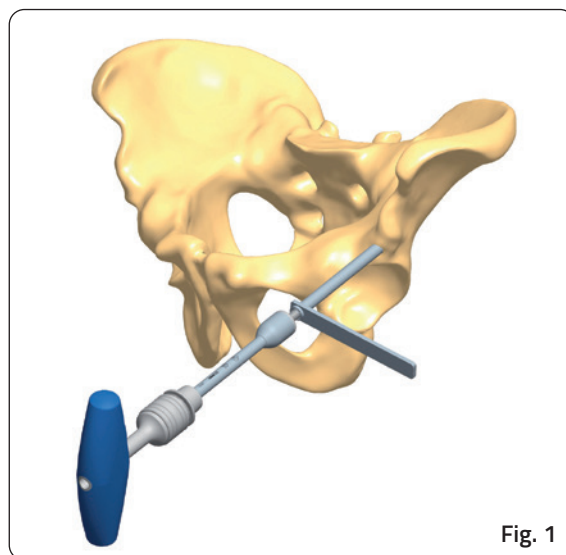

Fig. 1
1. Commence with the uninjured side. Make an incision just caudal to the anterior superior iliac spine to course over the anterior inferior iliac spine. Identify the lateral edge of Sartorius Muscle and retract medially. The rounded tendinous portion of rectus femoris can be seen arising from the anterior inferior iliac spine. Make an incision down to bone just cranial to this spine. Roughen this area with a periosteal elevator. Tap a self-drilling screw 5-8mm into the roughened area in order to engage the bony cortex and advance the screw using turns of the T-handle. Aim the screw 15-20 degrees cranial to avoid penetration of the hip joint and to enter the widest part of the ilium (**Fig. 1**).